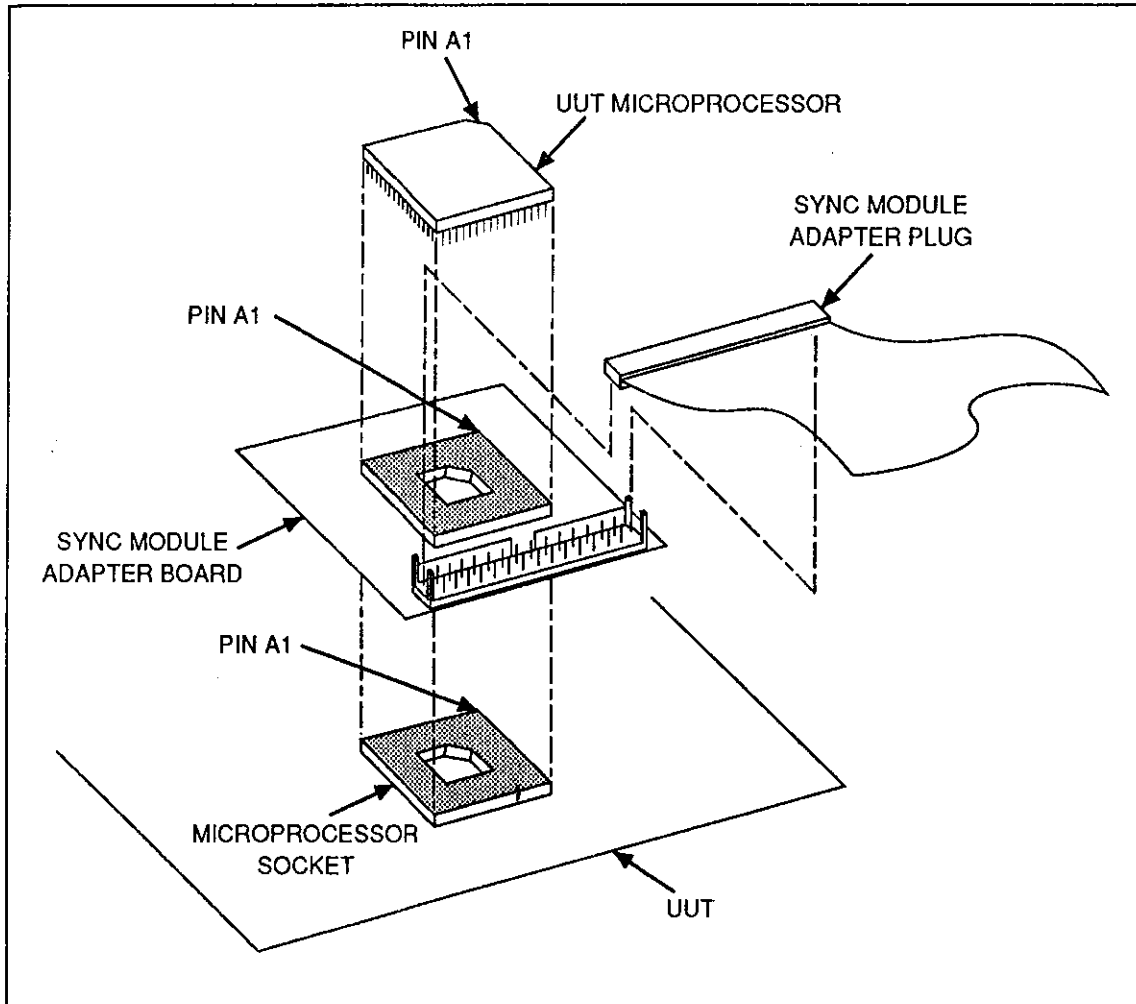

Figure 2-8. Connecting the Sync Module to the UUT
5. Connect the Sync Module adapter board to the Sync Module (as shown in Figure 2-8). Remove the 68020 processor from the UUT and plug it into the socket on the adapter board. Connect the adapter board plug into the processor socket on the UUT. Connect the UUT RESET line (white wire) on the Sync Module to system reset on the UUT. Connect the UUT RESET ground line (black wire) to UUT ground.